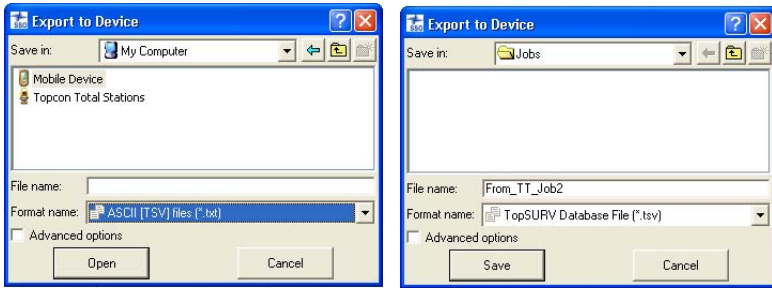

Figure 8-7. Export to Device Dialog Box
2. Double-click the **Mobile Device** in the *Export to Device* dialog box (Figure 8-7 on page 8-8), select the folder in the TPS Controller where the exported file will be saved. Select the desired file format and enter the name of the newly created file. Click **Save** in the *Export to Device* dialog box.